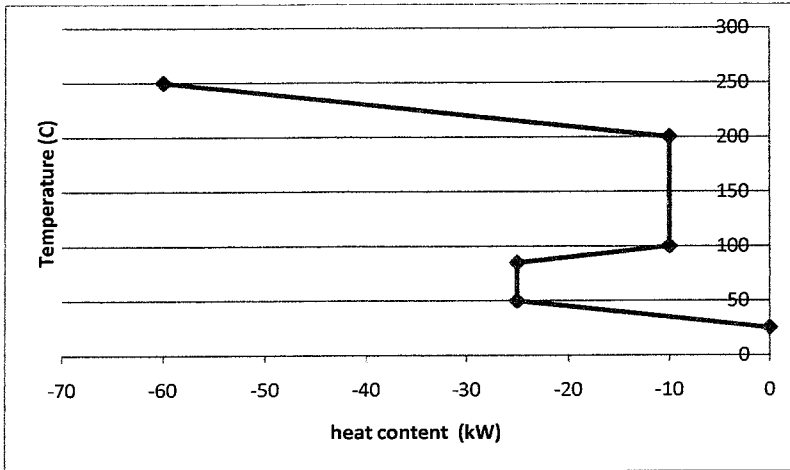

Figure 1. Grand composite curve
b) A petroleum processing plant must cool its product from 200 C to 50C, but must heat up several of the raw material heating the plant. The plant is old and the heat integration, which is shown in fig. 1. is not optimal. The heat capacity flow rate for each stream is 1 kW/C
i) How much heating and cooling are required by the scheme shown in Fig. 1? Calculate the minimum amount of exergy which must be supplied by the heating utility, and the maximum which can be recovered into the cooling utility.